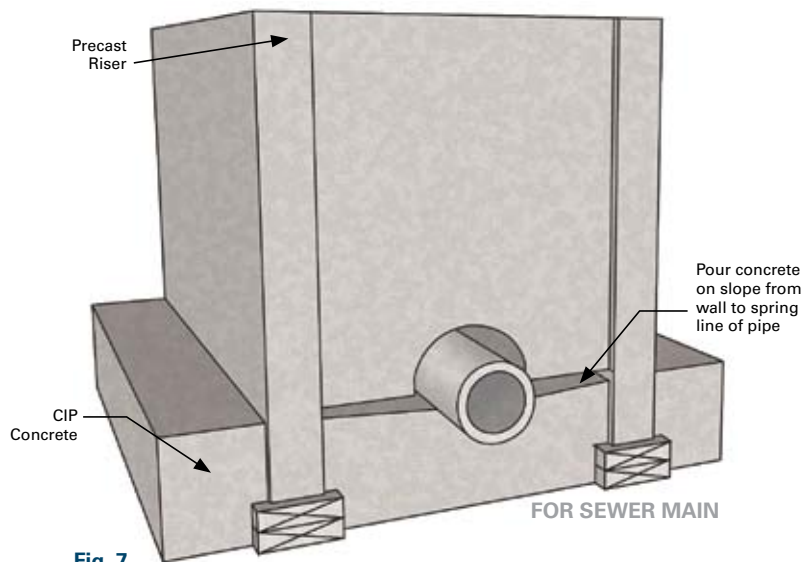

Fig. 7
Step 7: In sewer manholes, pour concrete (sloping from wall to pipe to avoid puddling) to form an invert. Use expansion-type mortar to fill the cavity. (See Fig. 7)